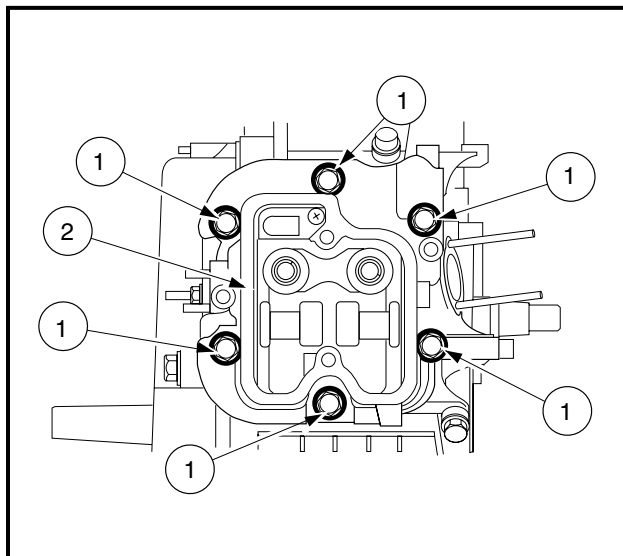

Figure 3-7 Remove Cylinder Head
1. Remove the six bolts (1) and take off the cylinder head assembly (2) (**Figure 3-7, Page 3-7**).